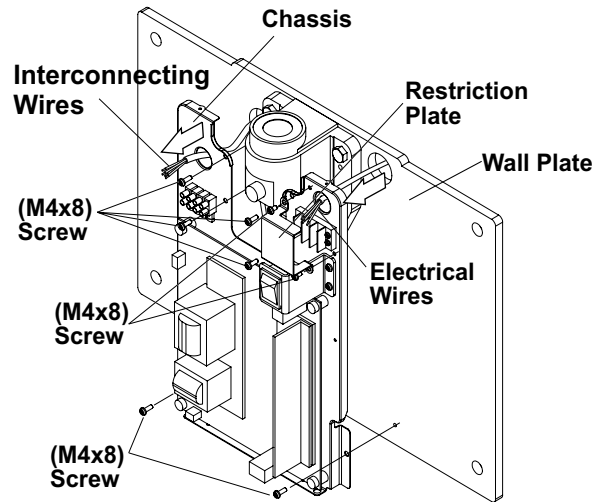

Fig.3-3 Attaching Chassis to Wall Plate
1. Remove the restriction plate over the terminal blocks by taking out two (M 4 x 8mm) screws. (Fig.3-3)
2. Route electrical interconnecting wires and power supply wires through the access holes on chassis and mount the chassis on the arm bracket with three of four (M4 x 8mm) screws. (A screw at upper right corner will be secured at step D. 6. on page 10.) Secure the bottom corner of chassis with two (M4 x 8mm) screws to the wall plate. (Fig.3-3)
4. Reattach the restriction plate. (Fig.3-3)